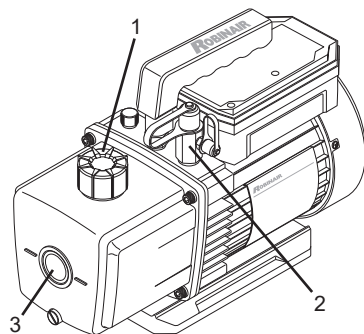
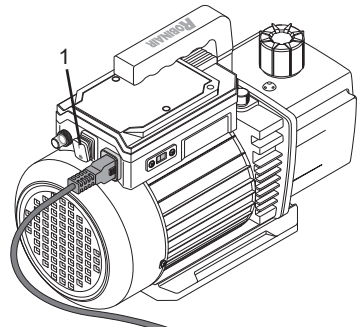

Figure 4
Figure 5
2. Remove exhaust/oil fill cap (1) (see Figure 4).
3. Add oil to oil reservoir until the oil level is aligned with the marks on either side of the sight glass (3) (see Figure 4).
4. Replace exhaust/oil fill cap (1) (see Figure 4).
5. Remove one inlet port cap (2) (see Figure 4).
6. Connect unit to power source and switch vacuum pump ON (1) (see Figure 5).
8. After pump has run for one minute, Switch pump OFF (1) (see Figure 5), check oil level in sight glass (3) (see Figure 4), and add oil if necessary.